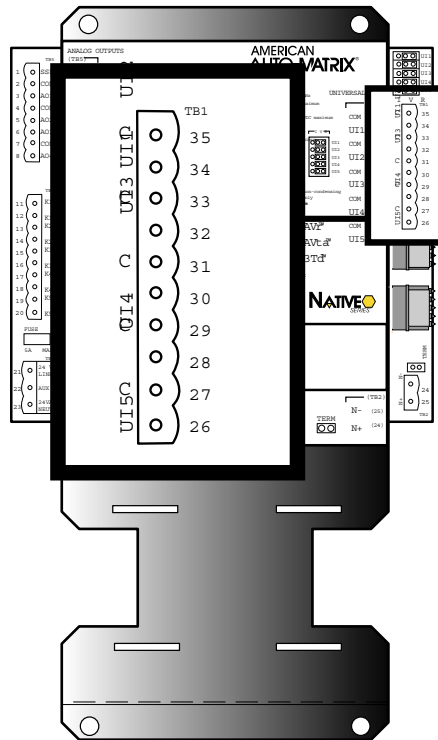

Figure 2-6: Location of the Universal Inputs on the NB-V3T
The NB-V3Tb provides a total of five (5) universal inputs, while the NB-V3Td has a single (1) universal input. The universal inputs, connected to TB1, are shown in Figure 2-6.